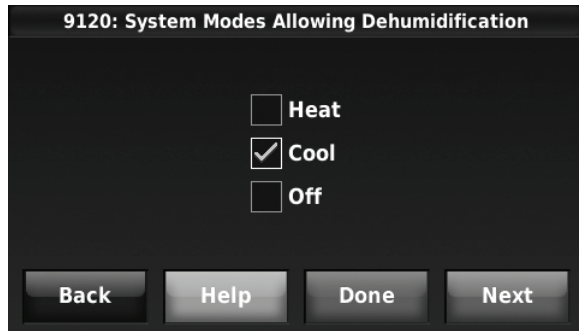

Fig. 250.
5. Select the system mode(s) to allow dehumidification. See Fig. 250.